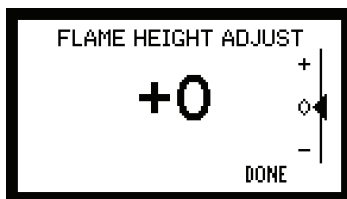

Figure 12.1
- Adjust the flame height using the “FLAME HEIGHT ADJUST” screen on the wall control. **Figure 12.1.**